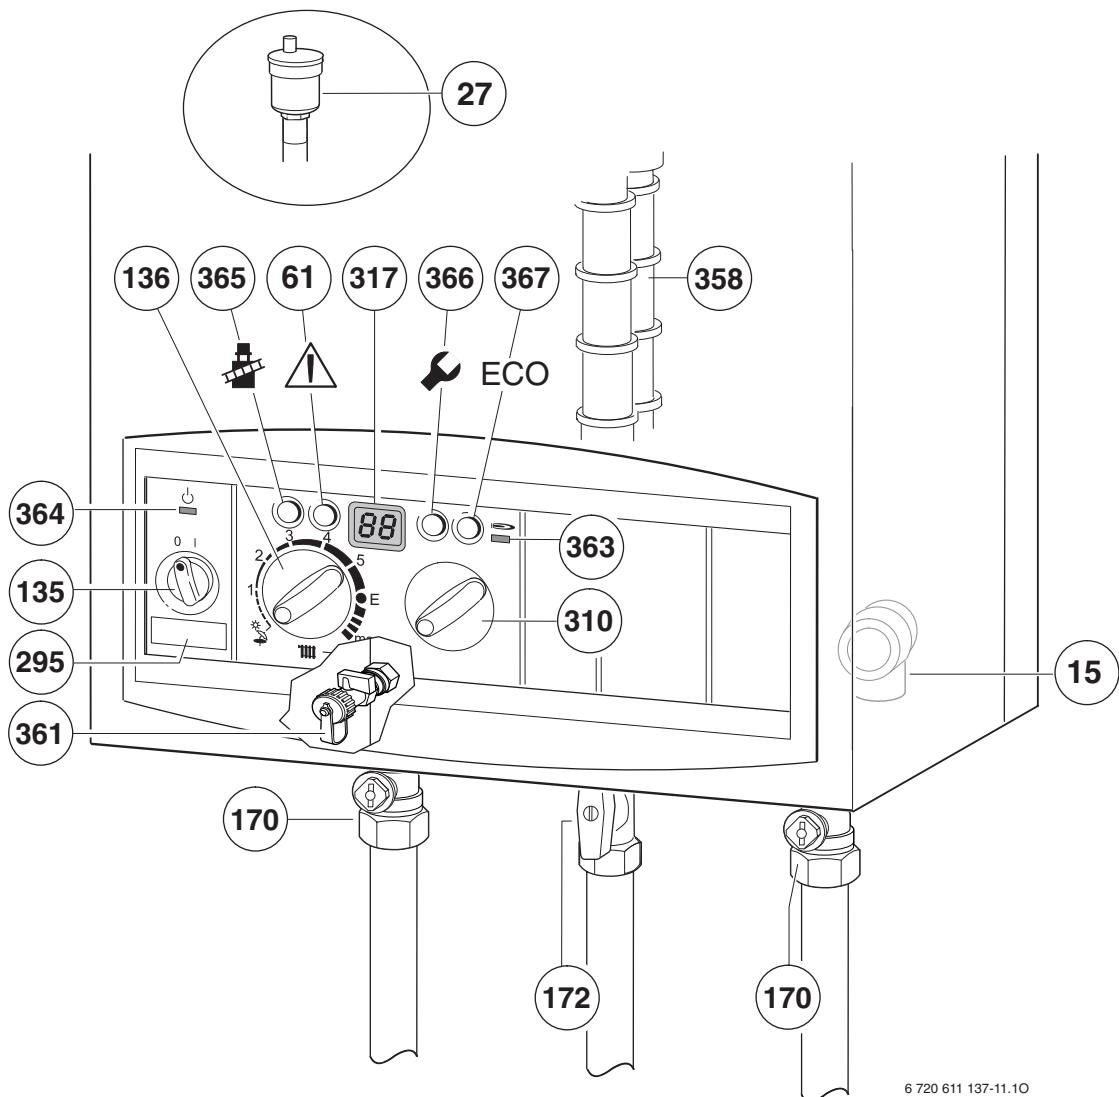

Fig. 31
- ▶ Unscrew the condensation trap (358) and pull out, fill with approx. 1/4 l of water and refit. Refer to fig. 31.
- ▶ Check the automatic air vent is open (27) see Fig. 31
- ▶ Turn on service valves (170), fill central heating system.
- ▶ Turn on gas cock (172). Refer to fig. 31.